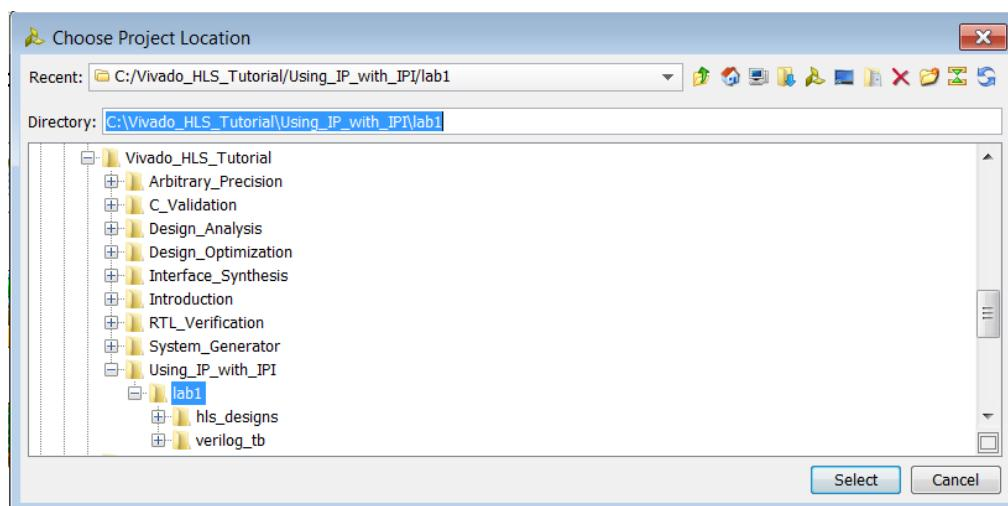

Figure 187 Path to the Vivado Design Suite Project
4. Click on the ellipsis button to the right of the Project location text entry box and browse to the tutorial directory (Figure 187).